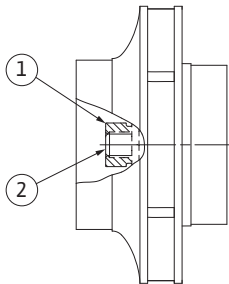

Fig. 53: Correct position of the impeller nut after the installation
29. Hold on to the shaft (see step 24) and tighten the impeller nut with the specified tightening torque (see list "Table 11: Screw tightening torques" on page 117). The nut (Fig. 53, Item 1) has to be about ± 0.5 mm flush with the end of the shaft (Fig. 53, Item 2). If this is not the case, release the nut and repeat steps 25 to 29.